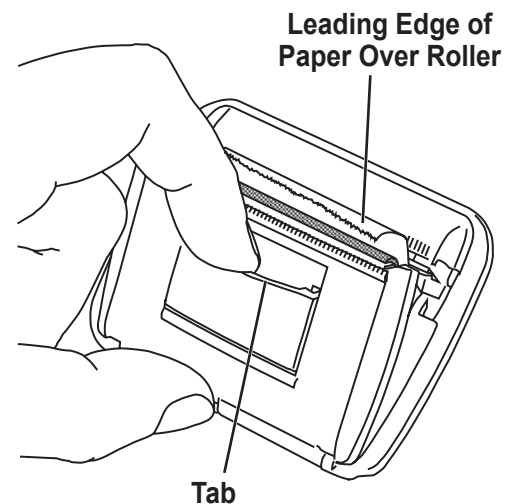

Figure 9
1. Remove the cover on the printer by pulling out on the tab as shown in Figure 9.